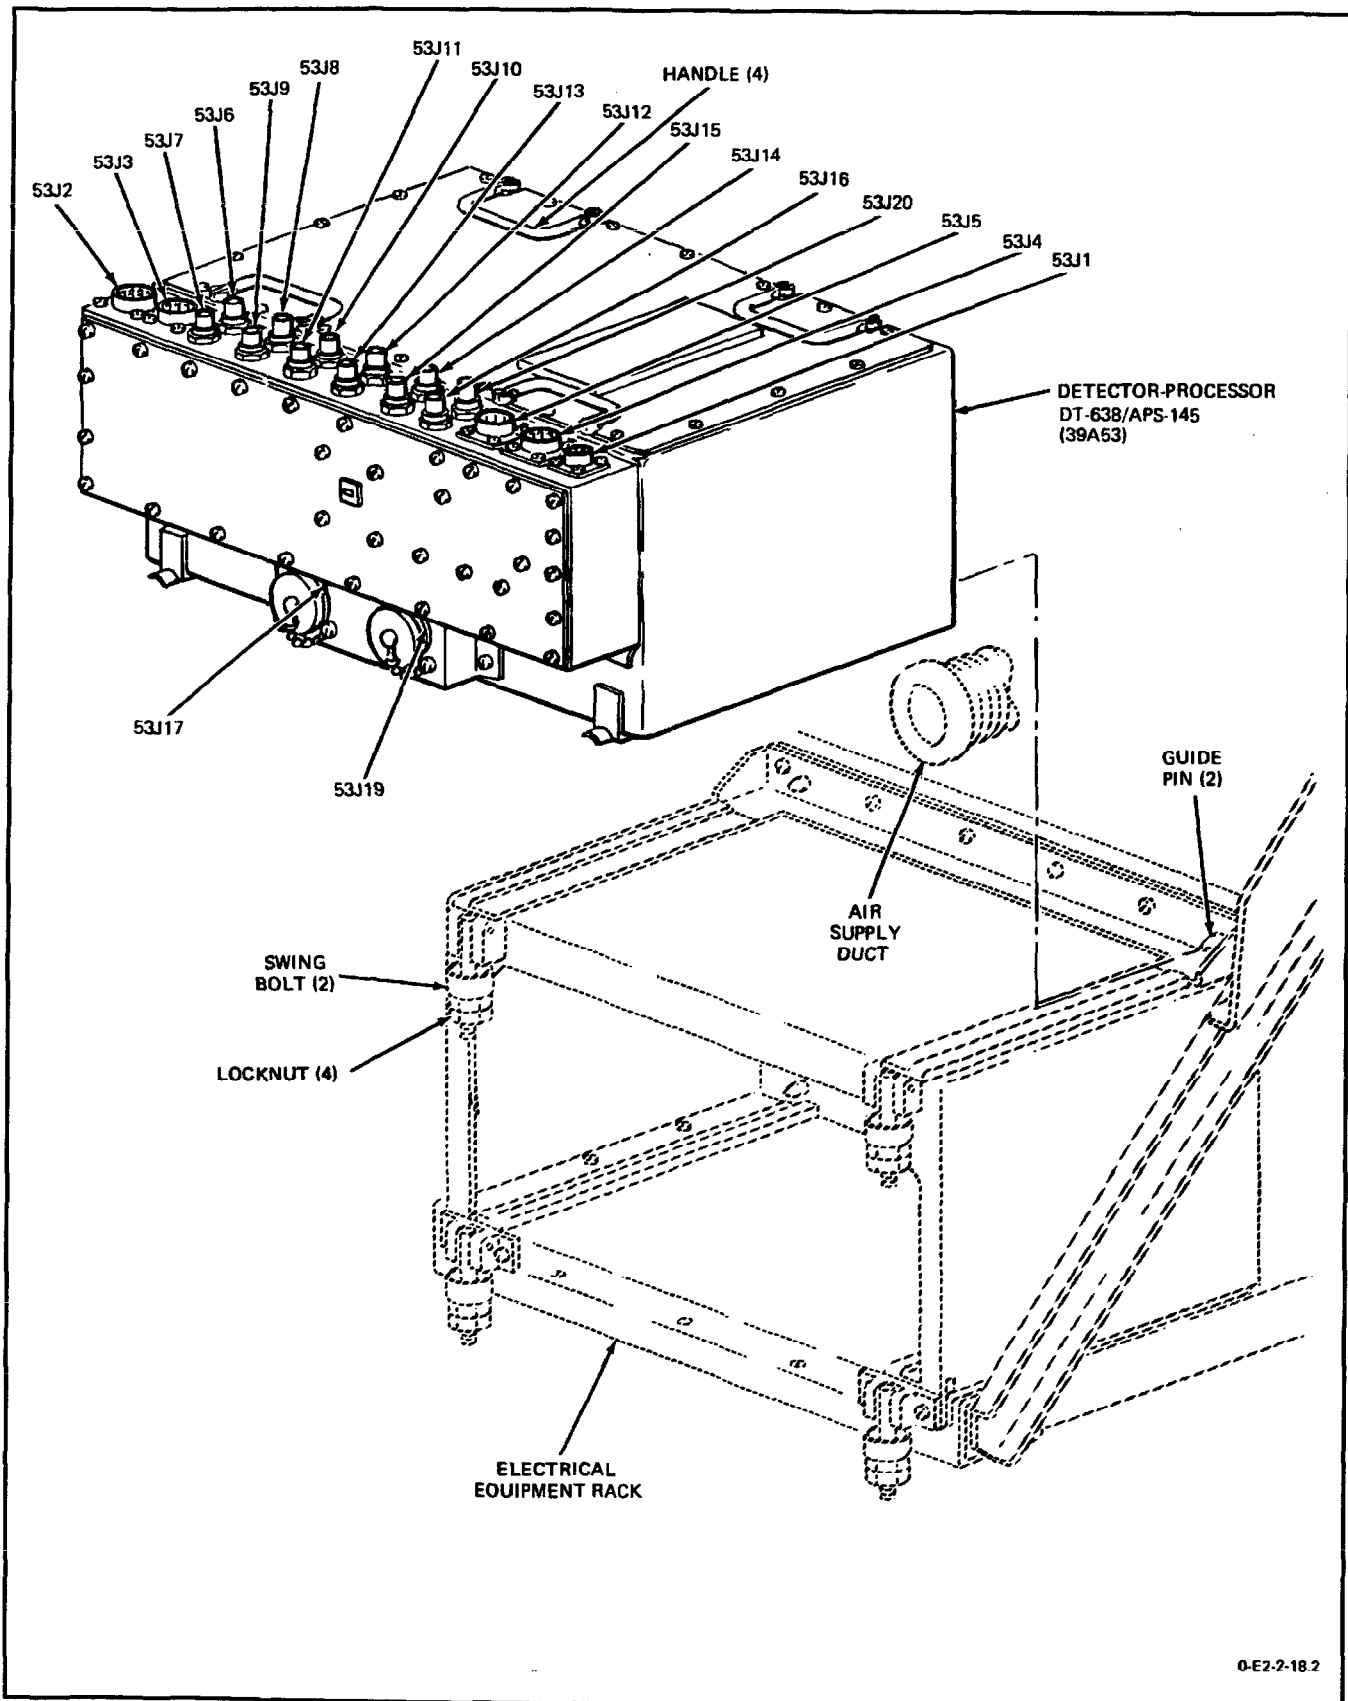

Figure 1. Removal and Installation of Detector-Processor DT-638/APS-145
**4. INSTALLATION.** (Figure 1.)